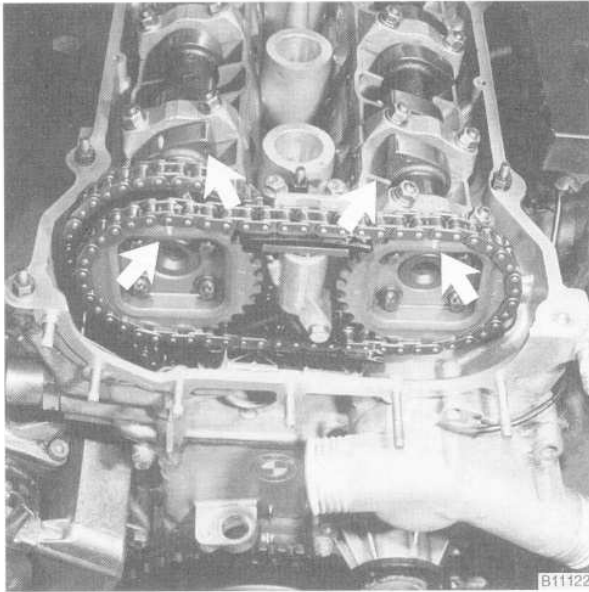

Fig. 8. Engine set to approximate TDC—camshaft lobes face in and sprocket arrows point up (arrows).
14. Set the engine to approximate TDC by rotating the engine in the normal operating direction until the camshaft lobes at cylinder no. 1 are facing each other. See Fig. 8.